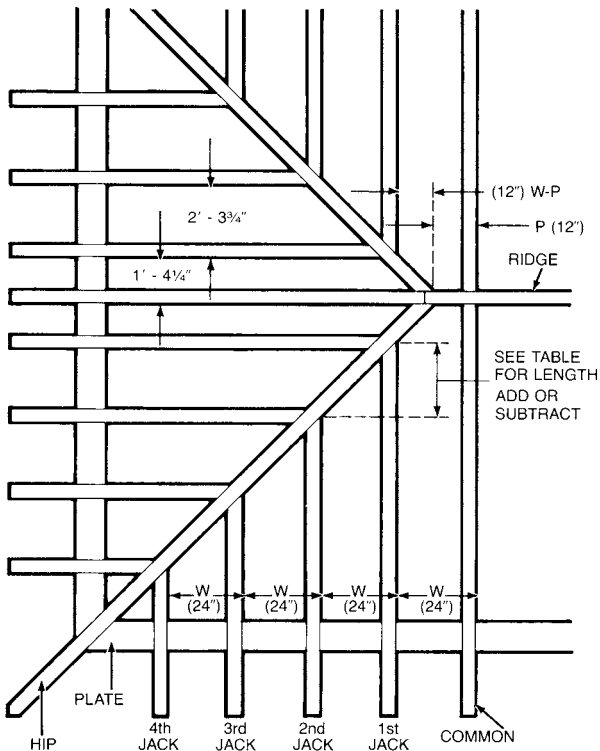

FIG. 14 Top View of Hip Jack Rafter Spacing.
JACK RAFTER LENGTH: The Jack Rafter Tables are different than those for the other rafters. The table lists, in the first column, the varying center-to-center spacing of the jack rafters. Then in the second column is the difference in length from one jack to the next (see Figures 14 and 15). This difference in length is to be added to or subtracted from the rafter length as you progress from jack to jack (using the spacing selected). In our example of a 8" rise, and lets assume a 24" spacing; we have a 2' 4-7/8" difference in length. Therefore, to obtain the length of the first or longest jack rafter, measure the distance from the edge
distance from the edge of the last common rafter to the intersection of the hip and ridge, or the valley and top plate (for a valley jack). This measurement is called (P) in Figures 14 and 15. Now subtract the measurement (P) from the spacing you are using (W). The result ($W - P$) is the distance from the intersection of the hip and ridge to the first hip jack or the plate corner to the first valley jack. Look in the table for this distance and find the length to deduct from the common rafter length. In our example again, let us take a measurement of 12" from the common rafter far side edge to where the hip intersects the ridge ($W - P = 24 - 12 = 12$). Therefore:
TAIL OR EAVE LENGTH: The tail or eave length for all hip jack rafters is the same as for common rafters. If desired, use a common rafter for a pattern. Cripple and valley jacks have no tail (See Figures 14 and 15).